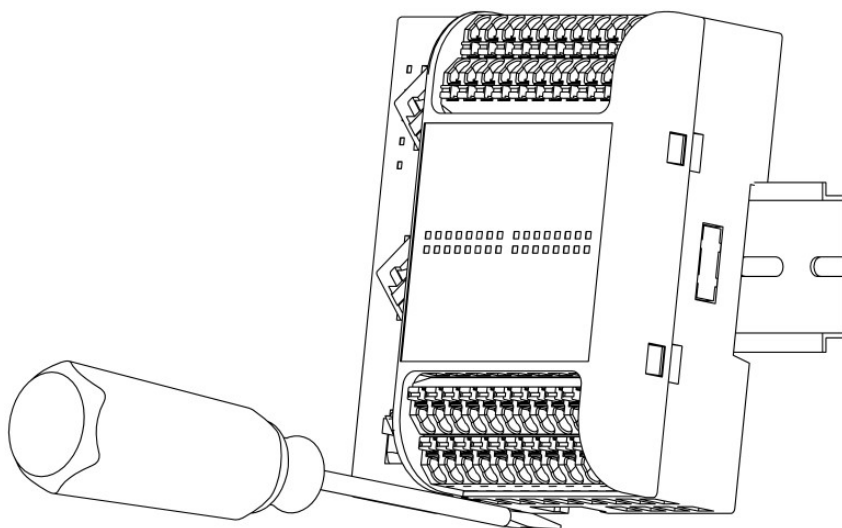

Figure 3-3 Module removal
2. Gently pull the module out and the guide rail forms an angle, and then pushes the module out of the net, as shown in Figure 3-3.